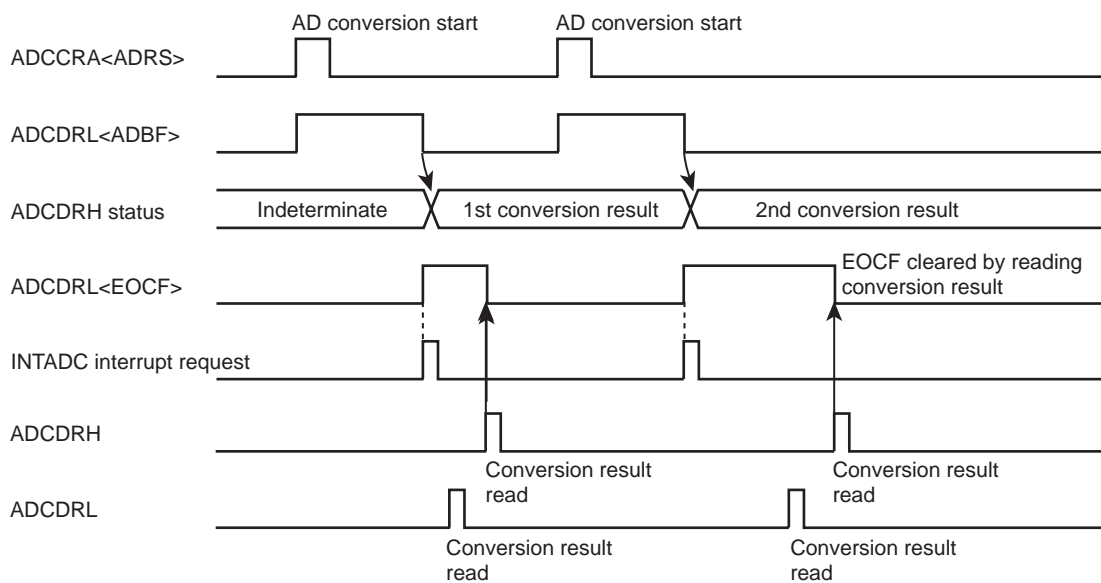

Figure 14-2 Software Start Mode
- Set the AD conversion time using AD conversion time (ACK). For details on how to set the conversion time, refer to Figure 14-1, Figure 14-2 and AD converter control register 2.
3. After setting up (1) and (2) above, set AD conversion start (ADRS) of AD converter control register 1 (ADCCRA) to "1". If software start mode has been selected, AD conversion starts immediately.